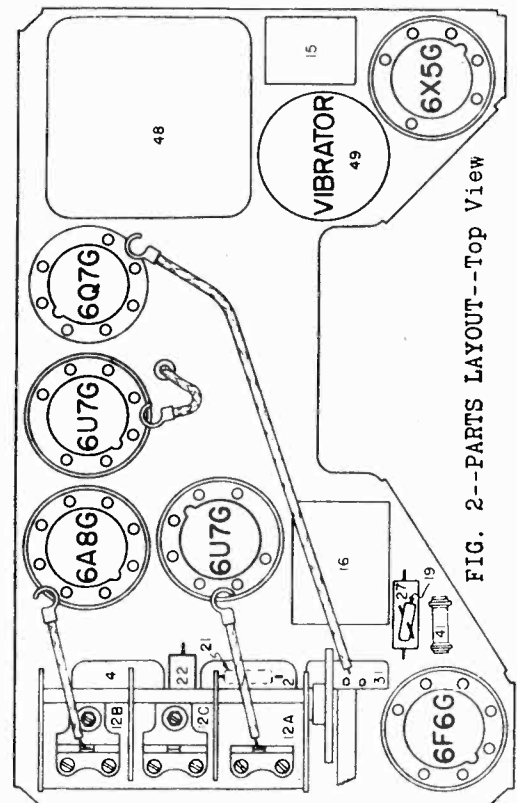

FIG. 2--PARTS LAYOUT--Top View
- (d) Adjust the parallel trimmer for the oscillator section of the condenser gang (Illus. 12C, Fig. 2) for maximum output. It is very important that this frequency be set accurately as a slight mis-setting will cause the receiver to be out of track over the entire high frequency end of the dial.